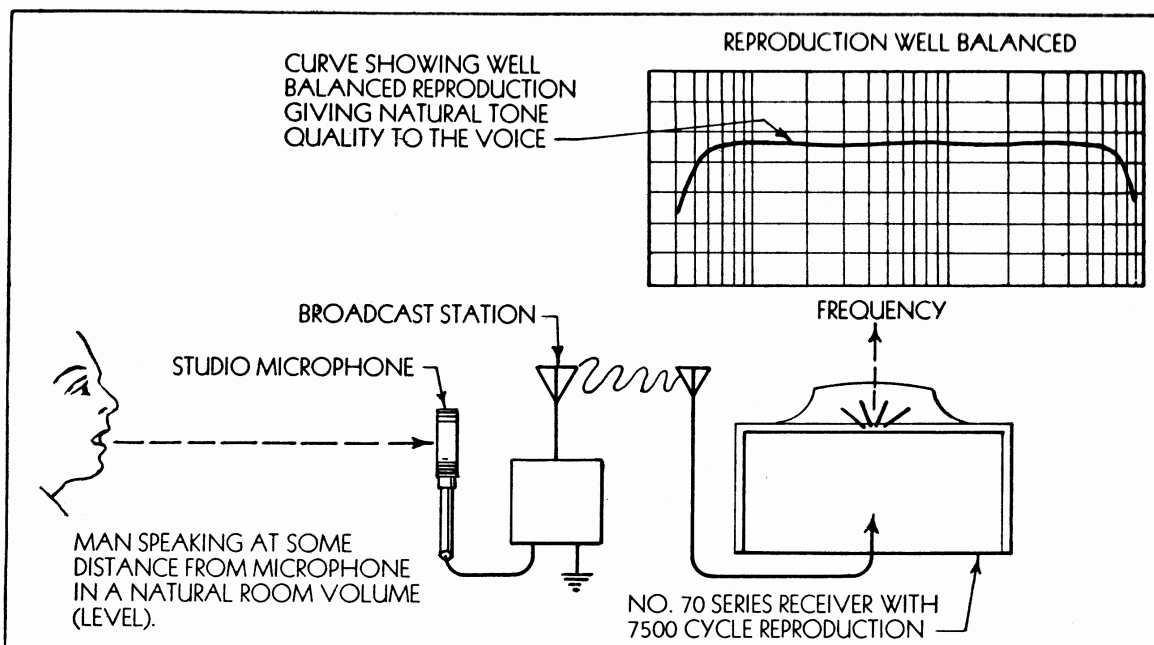
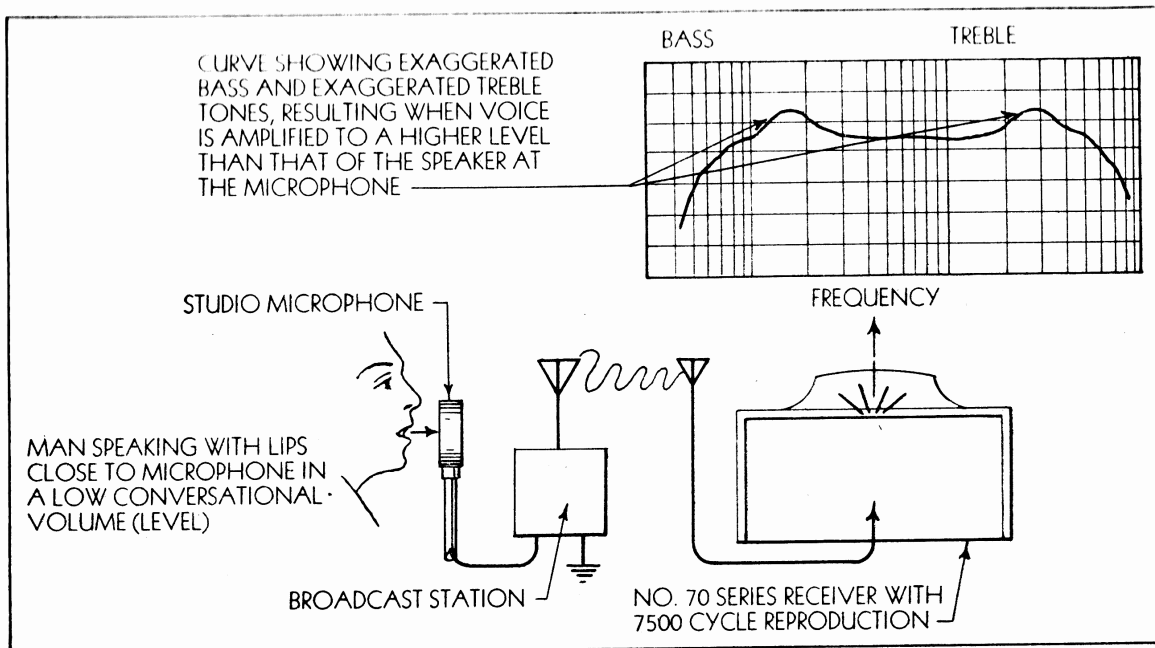

Fig. 47
Fig. 48
- (e) **Better Microphone Technique for Studio Announcers** so that the reproduced voice on a High Fidelity Receiver will be as natural in tone and clear in articulation as would be the case if the speaker were in the room with the listener. This requires that the speaker's lips be several feet away from the microphone (Fig. 47) and that the voice be pitched the same as when speaking to an audience at that same distance. When the speaker's lips are placed close to the microphone (Fig. 48) and a low level "confidential" tone is employed, the voice is richer in low frequencies than when speaking at an ordinary room level. Now, in order to bring the reproduction up to the proper level for regular broadcast listening, more amplification must be used, resulting in a boomy unnatural tone.